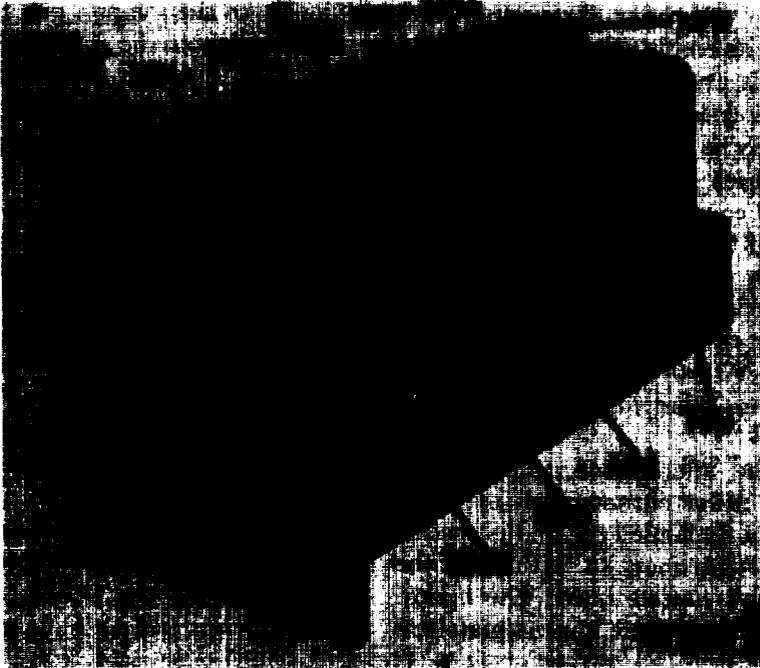

Figure 1-9. Amplifier audio frequency A3.
f. Amplifier Audio Frequency A3 (fig. 1-9). This assembly is located at the upper right hand side of the rear case section, and is fastened to the rear panel by means of four captive screws. The audio amplifier consists of a chassis on which are mounted nine bandpass filters (A3FL1 through A3FL9), plug-in module A3A1 (audio amplifier subassembly), and plug-in module A3A2 (low-pass filter). The audio amplifier subassembly A3A1 is secured to the chassis by two captive screws. Plug-in module A3A2 is provided with a knob for pulling it from its socket, and is secured by a cover plate which is held down by two screws. Two guide pins, located at the end of the chassis, mate with sockets in the main chassis frame.